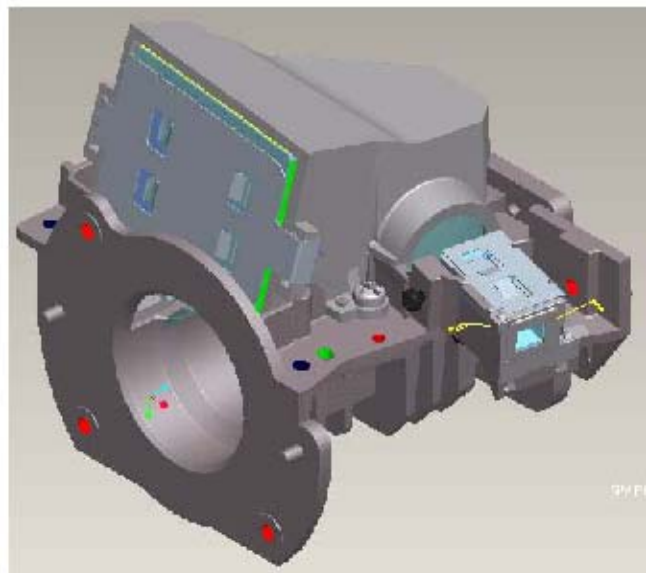

Figure 6-2
6.2 Assemble ” HSG ILL Module” to HSG DMD and cover over on “AL”(Fig 6-2)